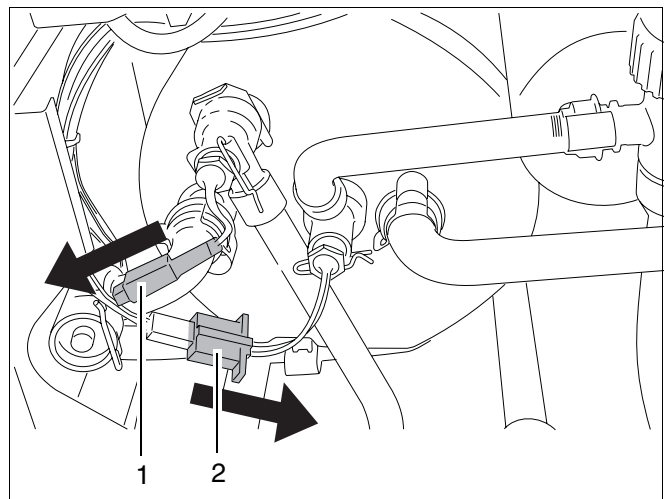

fig. 93 Disconnect plugs of hot water sensors
- Disconnect the plug of the hot water out flow sensor (→ fig. 93, item 1) or the hot water heat retaining sensor (→ fig. 93, item 2).